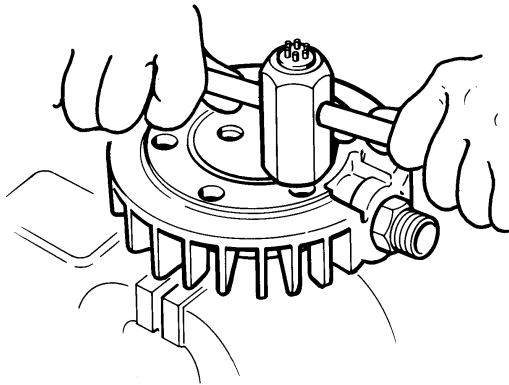

Fig. 8 Removing the intake valve
- Unscrew the intake valve body with the special tool (part no. 4555–645, part of the tools set delivered with the unit (Fig. 8).